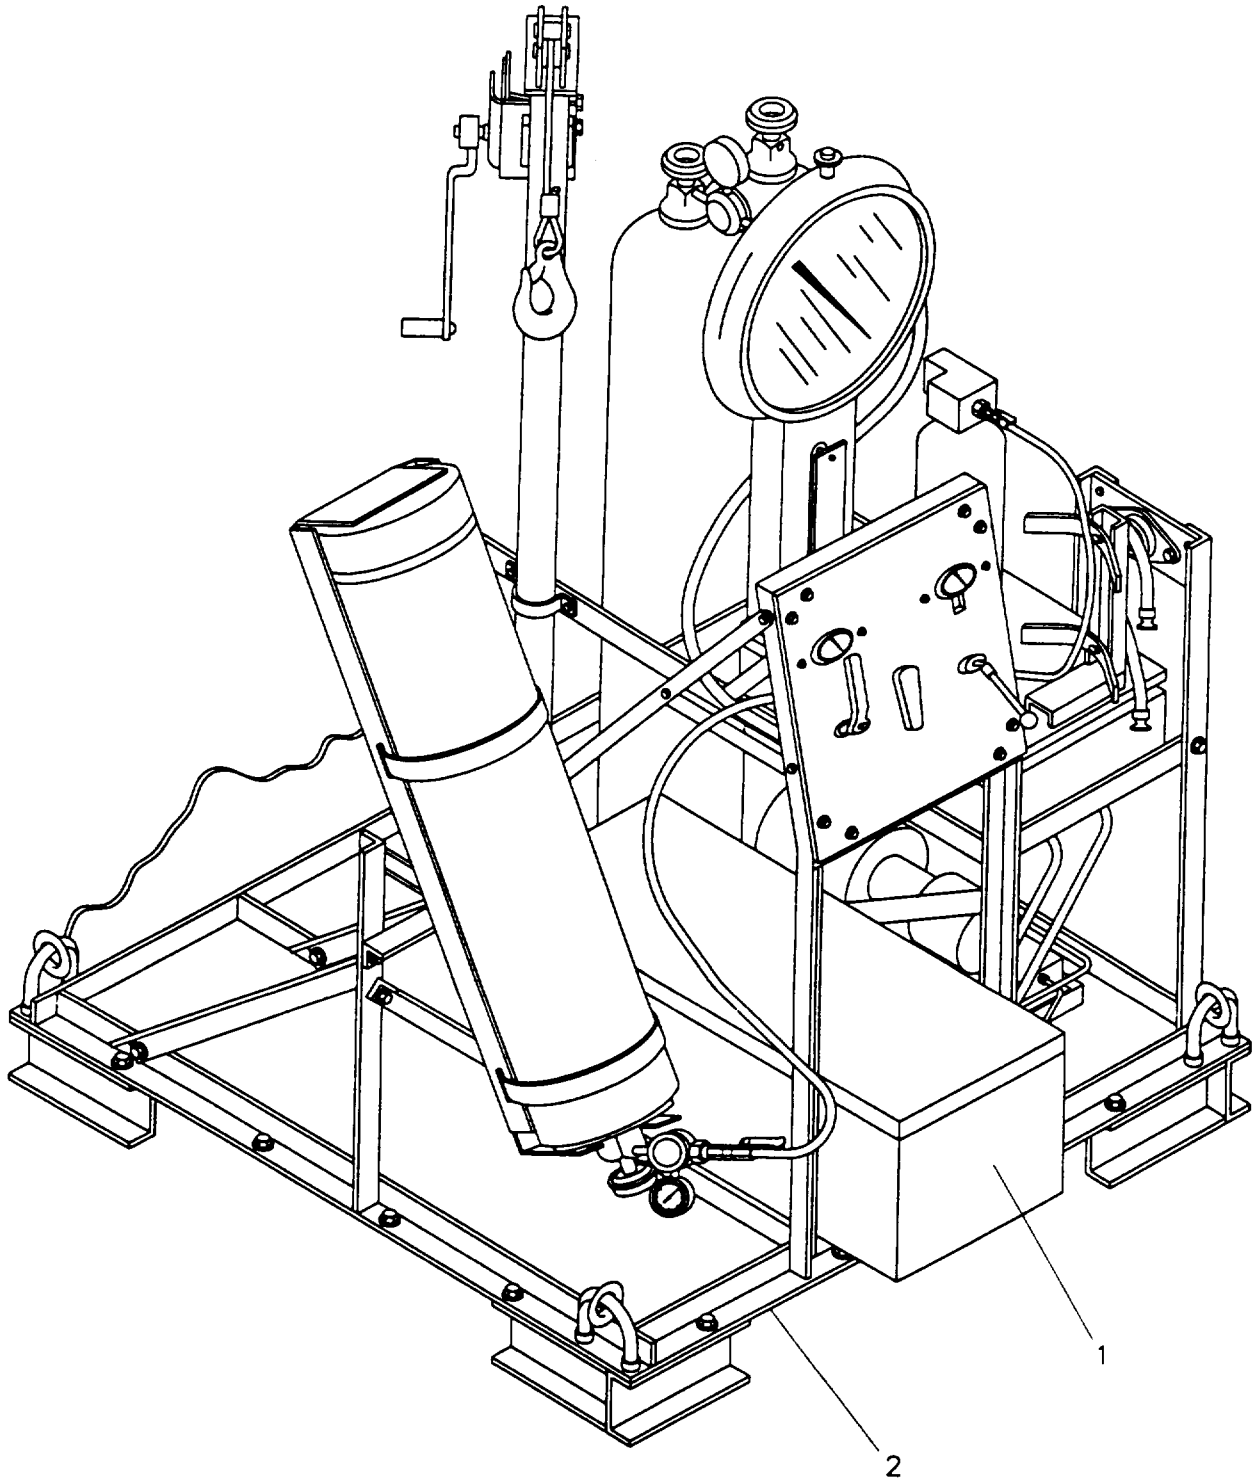

Figure 4-17. Tool Box Replacement
**4-24 TOOL BOX REPLACEMENT. (Refer to Figure 4-17)**